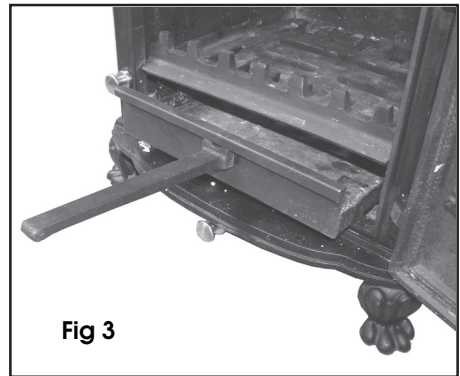

Fig 3
5. Set the grate and ashpan in position as shown in Fig 3. A handle is supplied for when the stove is in use.